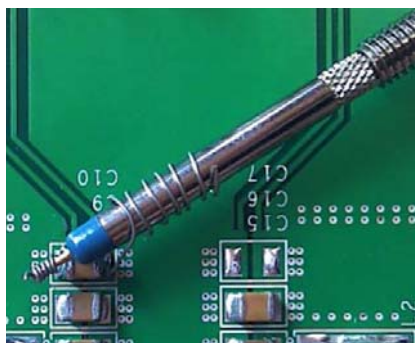

Figure 4. Measuring the Output Voltage Ripple
Set the oscilloscope to ac, 10 mV/division, and 2 μ s/division time base, with the bandwidth (BW) set to 20 MHz to avoid noise interfering with the measurements. To minimize coupling, shorten the ground loop of the oscilloscope probe. A good way of measuring the output voltage ripple is to solder a wire to the negative (-) capacitor terminal and wrap it around the barrel of the probe, while the tip directly connects to the positive (+) capacitor terminal as shown in Figure 4.